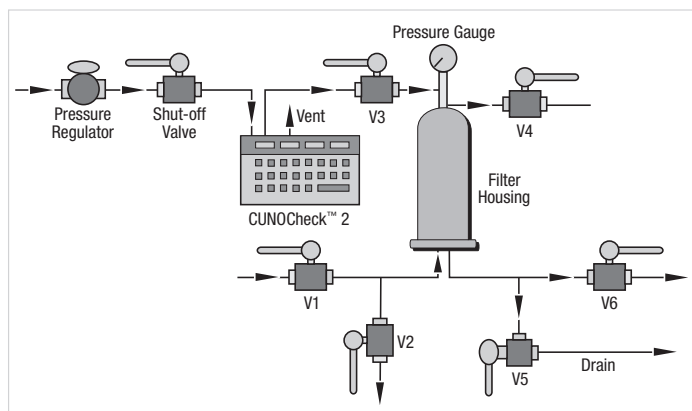

Figure 7. WIT (automated method).
The CUNOCheck 2 Automated Integrity Tester can be used to perform a WIT. When using the CUNOCheck 2 Automated Integrity Tester, follow the installation instructions for connecting the unit to the upstream valve as shown in Figure 7. Consult the appropriate 3M Purification Inc. literature for the test pressure and WIT value for the filter cartridge to be used and program these values into the CUNOCheck 2 Automated Integrity Tester when requested during the test set-up.
2. Procedure (Automated Testing — Figure 7)
- Configure the system as shown in Figure 7.